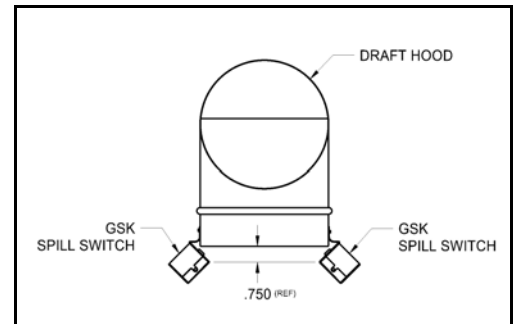

Figure 2
2. The switch should not contact the metal. They should be mounted at least 3/4 inch below the hood opening. (See Figure 2) Mount with supplied sheet metal screw.